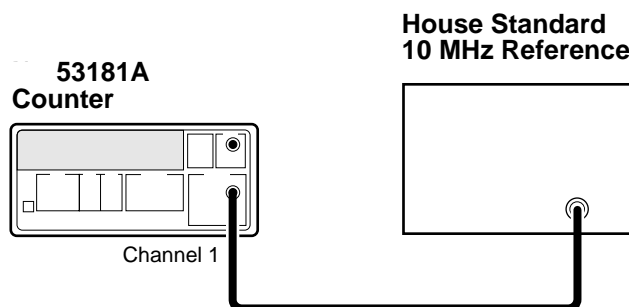

Figure 2-7. Standard Timebase Calibration Setup
- 1 Connect the output of a 10 MHz house standard to Channel 1 of the Counter as shown in Figure 2-7.